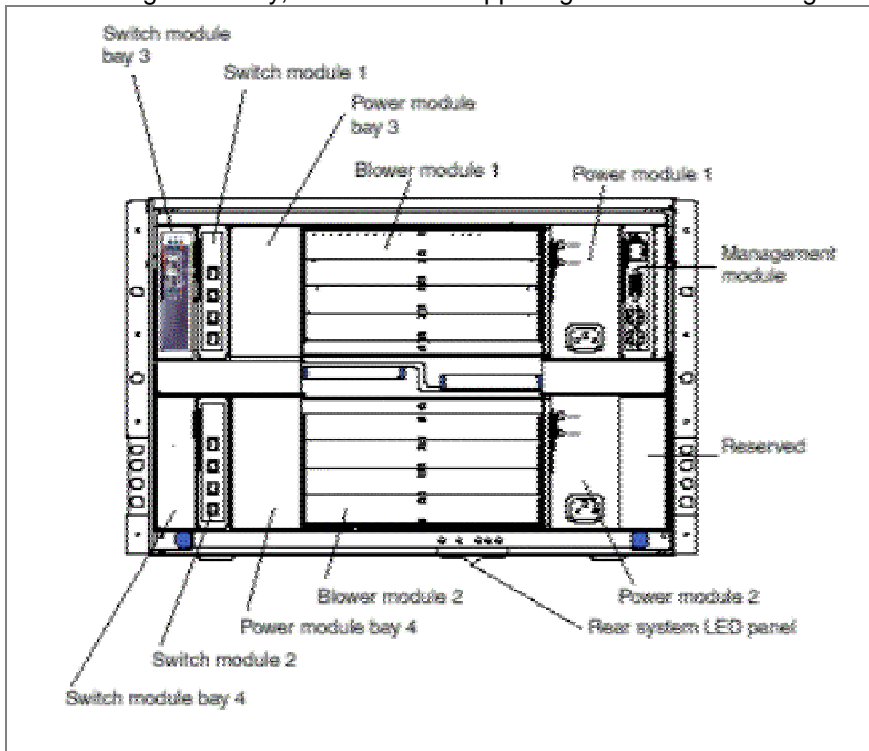

Figure 3. BladeCenter rear view
Figure 3 shows a rear view of the BladeCenter. The BladeCenter comes with one hot-swap management module in the management bay, located on the upper right hand corner in Figure 3.
The BladeCenter also supports four I/O modules that enable it to communicate with external resources. These I/O modules are housed in bays 1 through 4. Several I/O modules are available, designed specifically to communicate with a specific environment. The left hand side of Figure 3 shows two optional 4-port Gigabit Ethernet switch modules in bays 1 and 2. These provide connections from the blade servers' integrated Gigabit Ethernet ports to external networks. An optional Fibre Channel Switch module is shown in the bay 3, for connecting the optional Fibre Channel Expansion Cards on the blade servers to external storage, in our case the FAStT900 Storage Server. A second Fibre Channel switch module may be installed in bay 4 to provide connection for the second port on the Fibre Channel Expansion Cards.
1. Connect another system or server to the management module Ethernet port. We used a crossover cable to connect a laptop running Windows 2000 to the management module (upper right hand corner shown in Figure 3). Change the laptop's IP address to 192.168.70.124, subnet mask 255.255.255.0, in order to be on the same subnet as the management module's default IP address and subnet. Using Netscape, type the address 192.168.70.125 in the Location field and press Enter to access the BladeCenter Management Module.
1. Connect a keyboard, video monitor and mouse to the ports on the management module, shown in Figure 3, upper right hand corner.